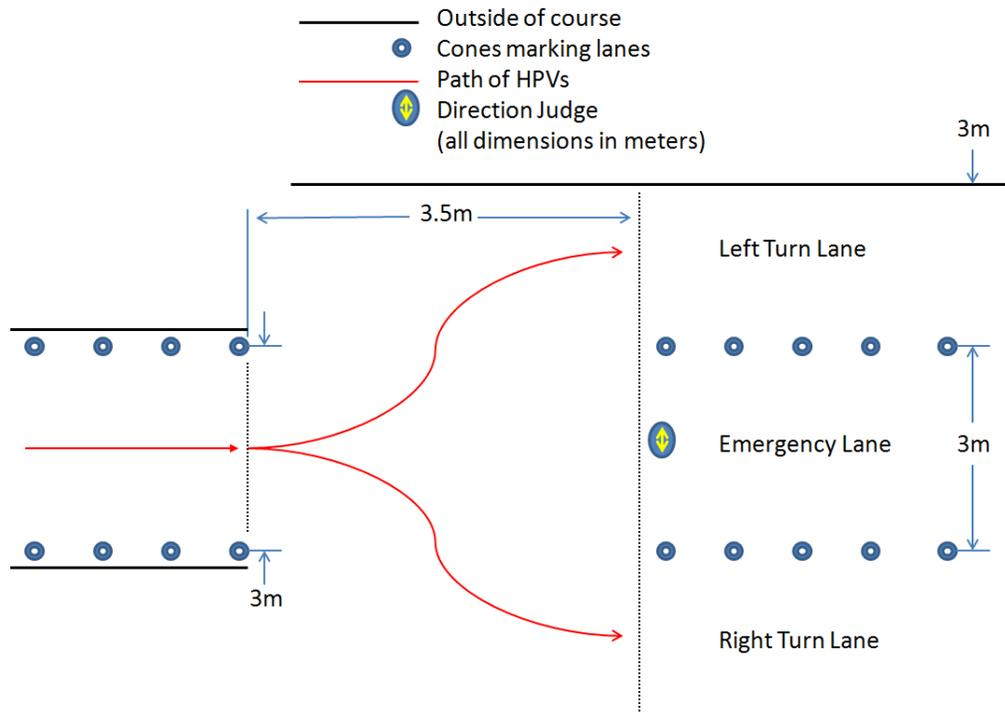

Figure 3: Quick turn obstacle (Note: actual layout subject to limitations of venue)
- 6) Quick turn. As teams approach the quick turn they will be funneled into a single lane 3m (9ft 10") wide. Then each rider will be signaled to turn into a right lane or left lane by the quick turn judge when they reach the opening of the lane change delta. Teams will have to switch to the signaled lane within the 3.5m (11.5ft) length of the delta. If teams cannot make the lane change a center 3m (9ft 10") wide lane will be provided to allow for vehicles to continue on straight, but taking this lane or knocking down any cones constitutes a failure of the obstacle. Figure 3 shows the quick turn obstacle.